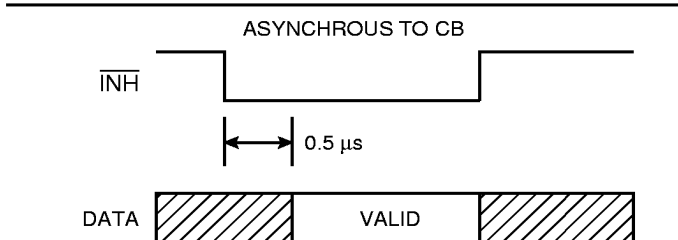

FIGURE 9. INHIBIT TIMING DIAGRAM
When an Inhibit ( $\overline{\text{INH}}$ ) input is applied to the SD-14595/96/97, the Output Transparent Latch is locked causing the output data bits to remain stable while data is being transferred (see FIGURE 9). The output data bits are stable 0.5  $\mu\text{s}$  after  $\overline{\text{INH}}$  goes to logic 0.
An  $\overline{\text{INH}}$  input, regardless of its duration, does not affect the converter update. A simple method of interfacing to a computer asynchronous to CB is: (1) Apply  $\overline{\text{INH}}$ ; (2) Wait 0.5  $\mu\text{s}$  min; (3) Transfer the data; (4) Release  $\overline{\text{INH}}$  (see FIGURE 9).